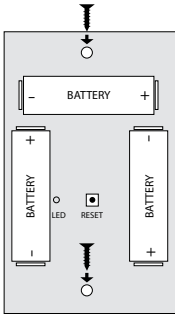

Fig. No. 47
3. Fix the siren on the wall using the screws (see Fig. No. 47).